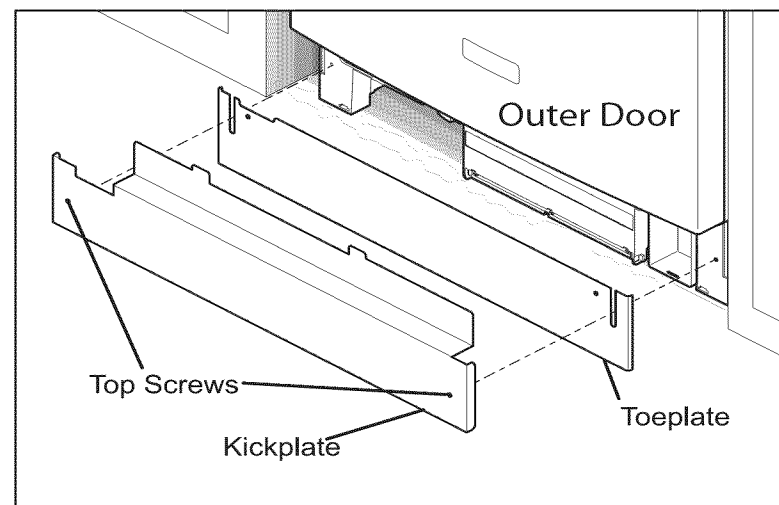

Figure 1 Kickplate Assembly
1. Remove two (2) screws at front of the kickplate assembly using a #2 Phillips screw driver.
2. Tilt and pull forward to remove see figure 1.